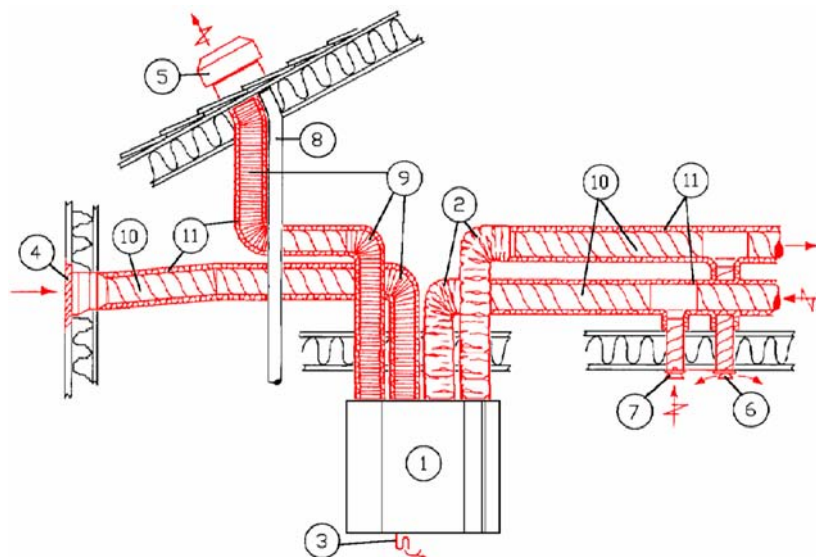

Рис. 1 Fig. 1
Lamp signal (11) comes on when set operation time between changing of fresh air filter (E, fig. 1) has expired. The ventilation unit can still be operated, but the efficiency will be reduced if the filter is not replaced. Operation time (6, 9 or 12 months) between filter changes can be set on the control panel (see installation instructions). Reset operation time after having changed the filter (see MAINTENANCE, item 2 - Changing the inlet filter).
Note! The aluminium extract filter (F, fig. 1) must be cleaned as necessary (See "Maintenance").